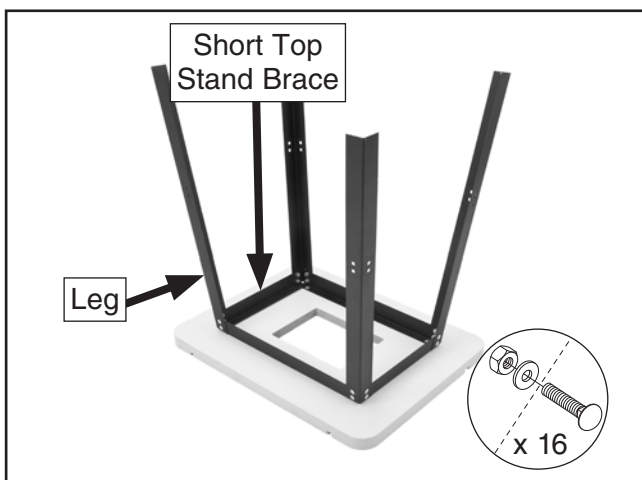

Figure 3. Stand legs and short top stand braces attached.
2. Attach each stand leg to a long and short top brace with (16) M8-1.25 x 12 carriage bolts, 8mm flat washers, and M8-1.25 hex nuts, as shown in **Figure 3**.